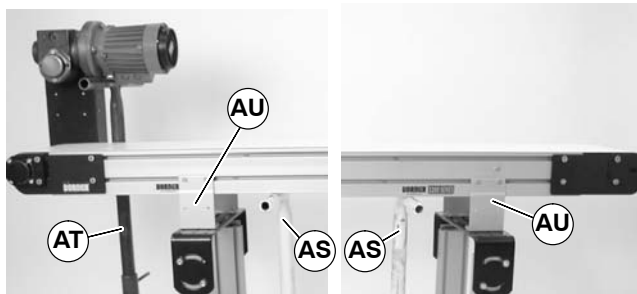

Figure 21
- Place temporary support stands (AS of Figure 21) at both ends of the conveyor. Place an additional support stand under the drive motor (AT), if equipped. See **WARNING**.
- Remove mounting brackets (AU of Figure 21) from one side of conveyor. (Reverse steps 3 & 4 of "Mounting Brackets" section on page 6).
- Ensure temporary support stands (AS of Figure 21) are placed at both ends of the conveyor. Place an additional support stand under the drive motor (AT), if equipped. See **WARNING**.